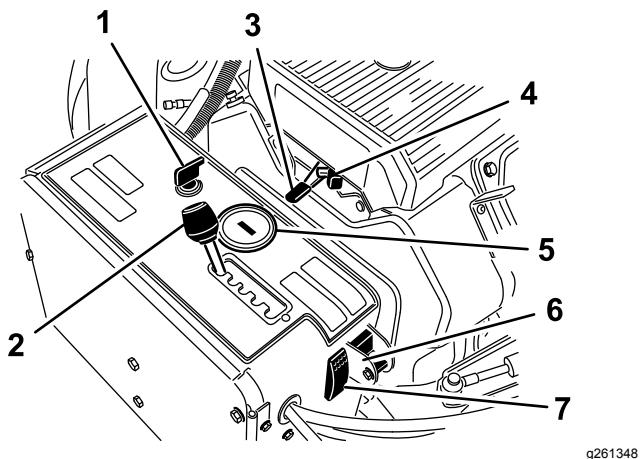

Figure 14
Use the ignition switch (Figure 14), to start and shut off the engine. The switch has 3 positions:
Move aerator spacing lever (Figure 14) to desired hole spacing or to T for transport.
Use the throttle lever (Figure 14) to control the engine speed. Moving throttle lever forward increases engine speed (**FAST** position); backward decreases engine speed (**SLOW** position). The engine speed regulates the speed of the coring head and controls the ground speed of the machine.
- When the engine shuts off, the hour meter/tachometer (Figure 14) displays the number of hours the engine has run.
Use the choke when starting a cold engine (Figure 14).
Rotate the switch to the down position to turn off the TrueCore feature (Figure 14). Remove the bolt to access the manual ground switch.
Press the system reset switch (Figure 14) to raise the coring head if the machine becomes disabled (e.g., the machine runs out of fuel).